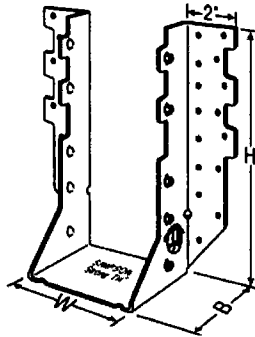

FIGURE 7—HHUS SERIES HANGER (see Table 7)
1. Refer to Figure 7 (this page) for definitions of hanger nomenclature (W, H, B).
1. Refer to Figure 7 (this page) for definitions of hanger nomenclature (W, H, B). These hangers have a 45° skew.